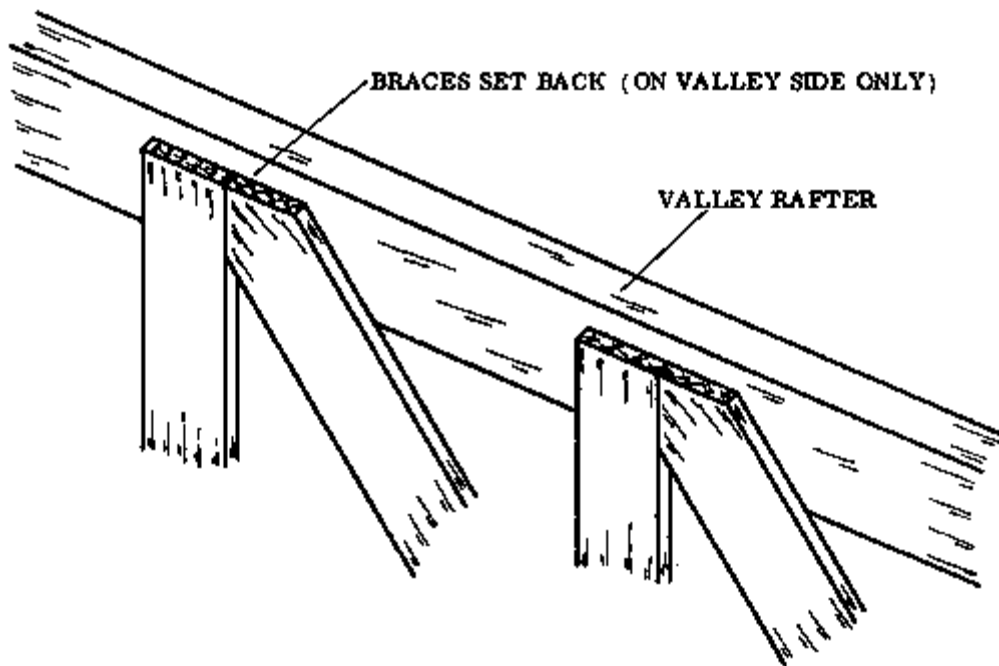

Fig. 3
- Nail the braces. Take care that the braces are set back from the top of the rafters on the valley side, so there is room to construct the valley later (Fig. 3).